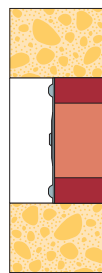
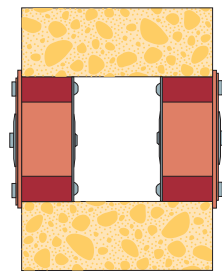

Fig. 9
Fig. 10
**RGP** and **RGPO** frames are installed on one side of the wall when normal demands are made for fire safety, (see fig. 9.) When the safety demands are particularly high two RGP frames are installed back-to-back (fig. 10). RGP can be installed in drilled or cast holes, or in a pipe that is cast in or bolted. Casting is made easier if MCT Brattberg casting forms are used, see picture.